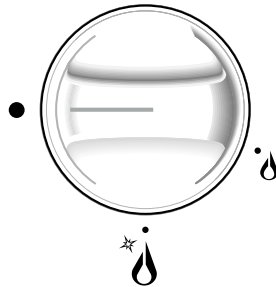

Fig. 2.1b
- 1 – Turn the knob fig. 2.1b in anti-clockwise direction up to the maximum aperture (symbol ), push in and hold the knob; this will light the gas. In case of black-out, bring a lighted match close to the burner.
The electric ignition is incorporated in the knobs (★ symbol beside flame  - max. heat/max. gas flow fig. 2.1b).